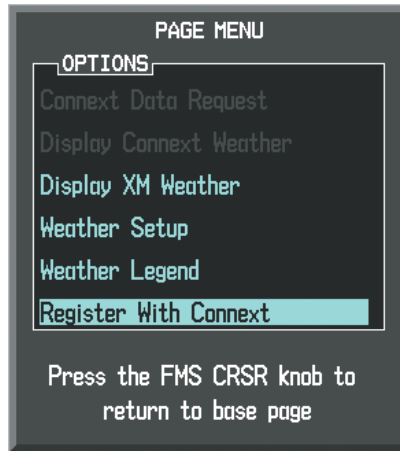

Figure 6-56 Select Register With Connex
- 3) If the system displays the 'CONNEX REGISTRATION' window, proceed to step 6. Otherwise, press the **MENU** Key. The Page Menu window is now displayed as seen in Figure 6-56.